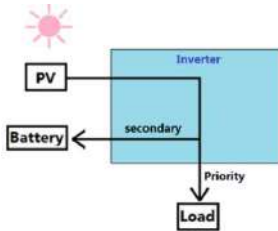

Figure1-10 Sunny day
2. If PV is sufficient, PV power will supply to the load, then charge the battery. (Figure1-10)